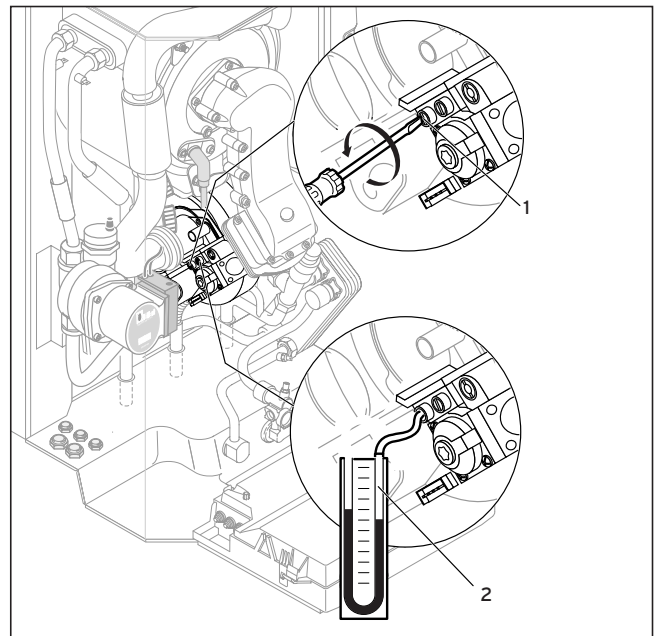

Fig. 5.4 Measuring the inlet working pressure
- Loosen the sealing screw marked "in" (1) on the gas valve assembly (Fig. 5.4).
- Connect a digital or a U gauge (2).